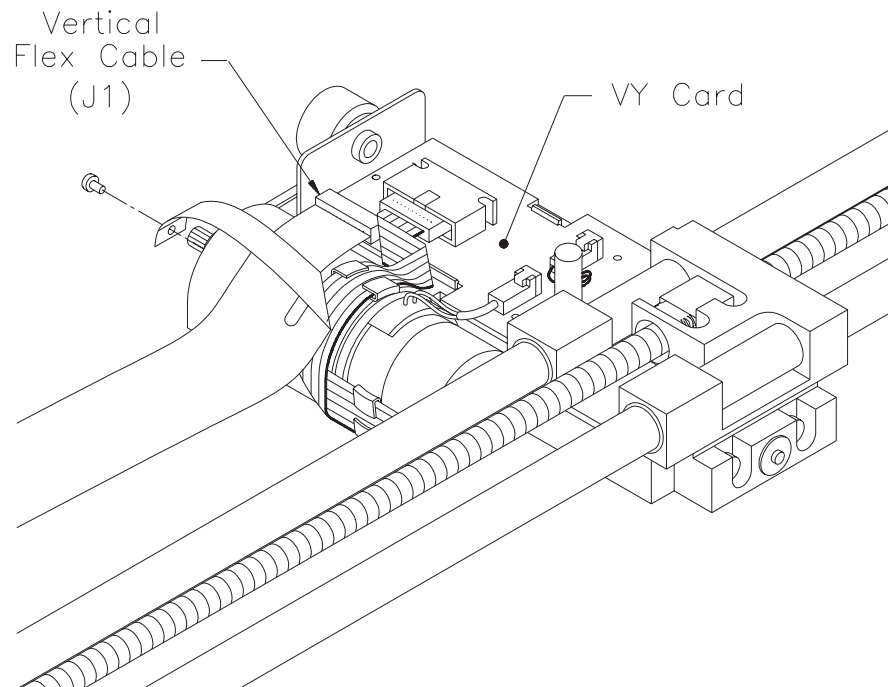

Figure 11-3 Vertical flex cable connection on the VY card
9. Detach the vertical flex cable from the connector labeled "J1" on the VY card, as shown in Figure 11-3. To do this, grasp the clip on each side of the connector with your thumb and forefinger. Pull on the connector clip until the cable slides away from the connector.